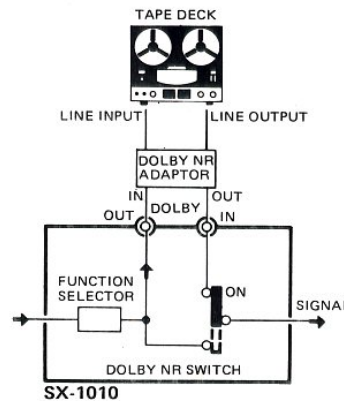

Fig. 19
1. As shown in Fig. 19, connect the Dolby adaptor output jacks to the tape deck recording input jacks (LINE INPUT).